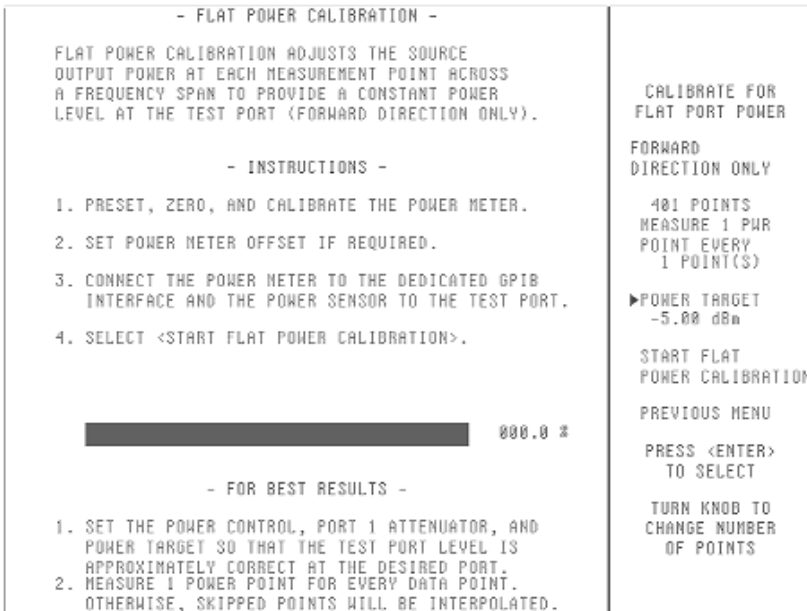

Figure 7. Calibrate for Flatness Menu.
- Connect the Mixer following the Figure 7 setup and measure Conversion Loss directly.
Flat Power Calibration adjusts the source output power at each measurement point across a frequency span to provide a constant power level at the test port. For easy referral, these instructions along with additional recommendations are displayed in the Calibrate for Flatness menu. (Check Figure 7)